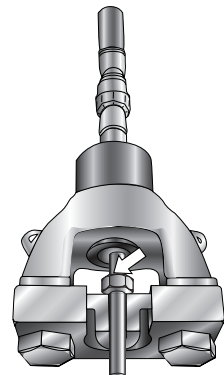

Figure 46
4. Close the pressure relief valve on the side of the hand pump. Pump the hand pump until the ram reaches a positive stop. At this point an increase in resistance of the handle will be felt and the nut will bottom against the shoulder of the body die (Figure 46).